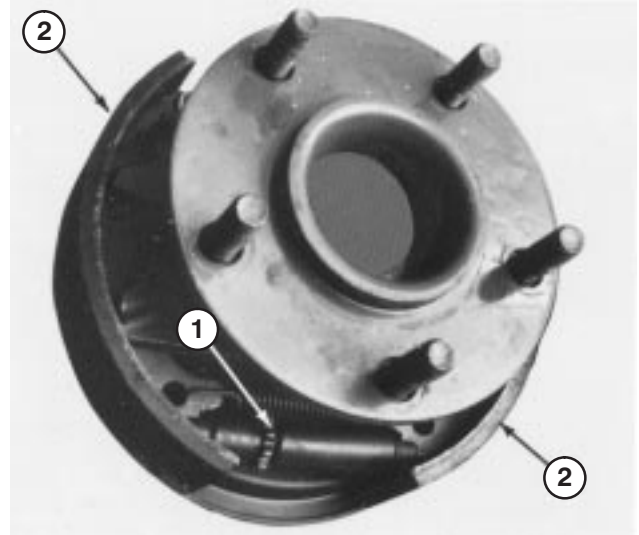

Figure 58
6. Using a brake adjusting tool or screwdriver, rotate star nut (Fig. 57) down until brake drum (Fig. 58) locks because of outward pressure of brake shoes (Fig. 58).